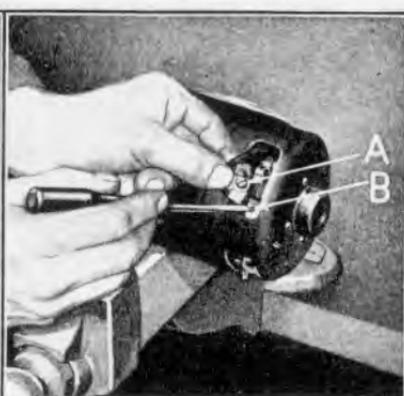

Fig. 475
- 932 Line up screw holes in terminal leads and brush terminals. Position lock washer over end of brush holder screw. Insert the screw through lead and brush terminals (See "A" Fig. 475). Run down screw into screw hole "B" in brush holder.